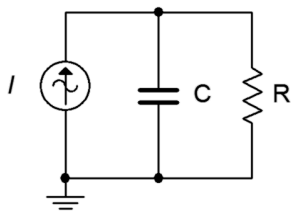

Figure 3.20
33. For the network shown in Figure 3.20, determine a value of C such that the impedance magnitude of the circuit is $10\text{ k}\Omega$. The source is a 440 Hz sine and R is $33\text{ k}\Omega$.
35. For the circuit shown in Figure 3.20, determine a value for C such that the magnitude of the circuit voltage is 200 volts. The source current is a 100 mA 1200 Hz sine and $R = 15\ \text{k}\Omega$.